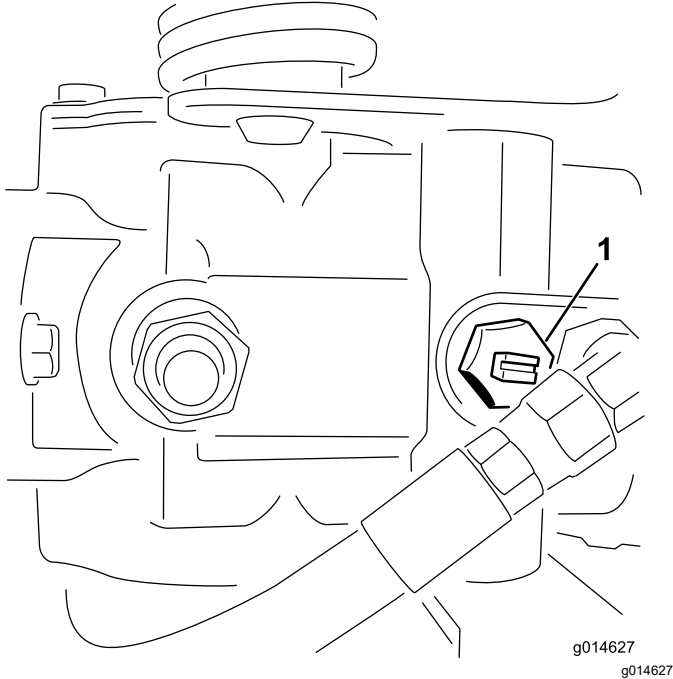

Figure 29
1. Locate the bypass valve on the pump and rotate it so that the slot is vertical (Figure 29).
2. Before starting the engine, close the bypass valve by rotating it so that the slot is horizontal (Figure 29).